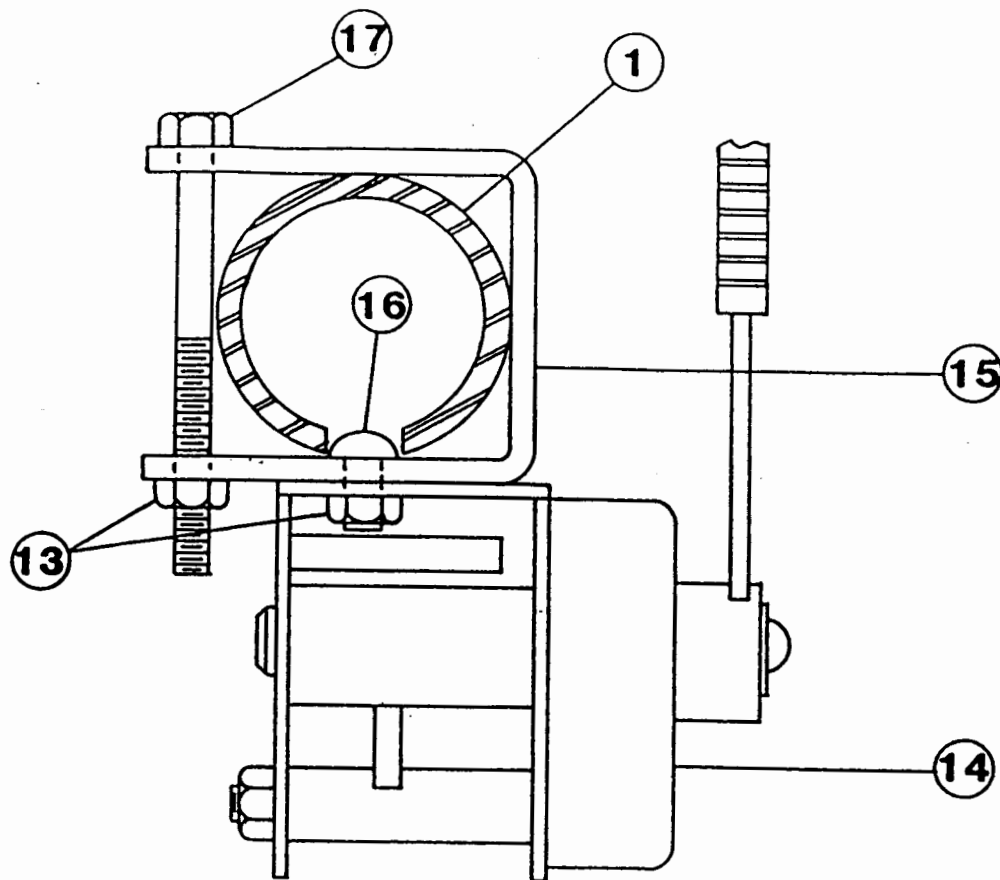

FIGURE 2
6. Next, attach the reel and clamp assembly (No. 14 and 15) to the End Upright Weldment (No. 1). This is done by sliding the clamps around the upright tube until the heads of the button head screws slip into the holes on the upright. When you have the clamps in the proper position, secure them in place using the 3/8" X 4" HH bolts (No. 17) and the 3/8" Stover Nuts (No. 13). See Figure 2.